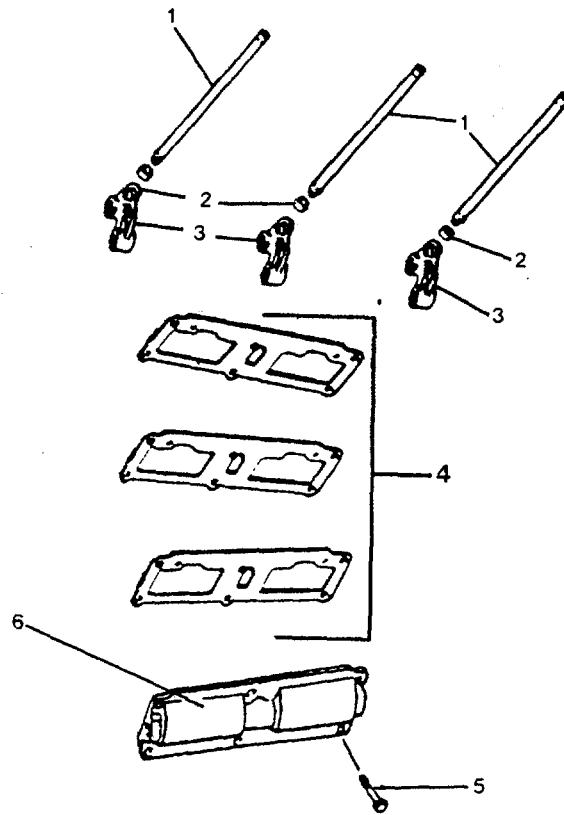

FIGURE 3-22. Cam Follower Housing Group.
- (1) Remove six hexagon capscrews (5, Figure 3-22) from each cam follower housing (6).